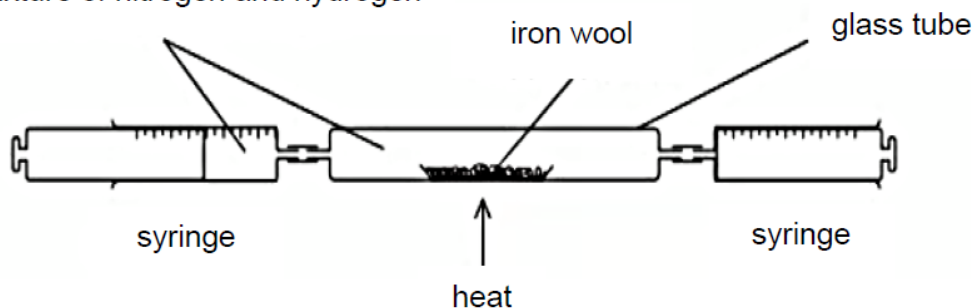

Fig. 5.1
5 The Haber Process is used in the manufacturing of ammonia from nitrogen and hydrogen. The process can be demonstrated in the laboratory using the set-up shown in Fig. 5.1.
(a) Suggest why it is important to ensure that no air is present in the apparatus shown in Fig. 5.1.
- (e) The rate of forming ammonia from nitrogen and hydrogen can be increased by adding iron catalyst as shown in Fig. 5.1.